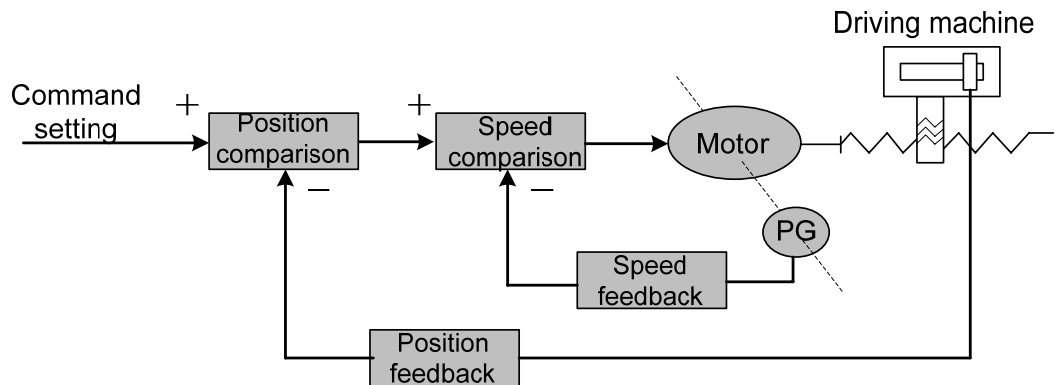

Fig. 1-4 Full-closed loop control
- Closed loop control:** The controlled quantity of the control system is detected by feedback device and is output to the controller. This process affects the output of the controller and then changes the controlled quantity. According to the detection point of the feedback device, the closed loop control is divided into **entirely closed loop control** and **semi closed loop control**. Entirely closed loop control (Fig. 1-4): The controlled quantity is detected directly by the feedback device and it is used for feedback. Mechanical position is used as controlled quantity, grating ruler fixed on the machine as position feedback device, and the encoder of the servo motor is taken as a speed feedback device, realizing the entirely closed loop control of machine position. If the grating ruler is not fixed, the encoder of the servo motor is used as speed feedback device (Fig. 1-5), therefore, this is a semi-closed loop control of a mechanical position.